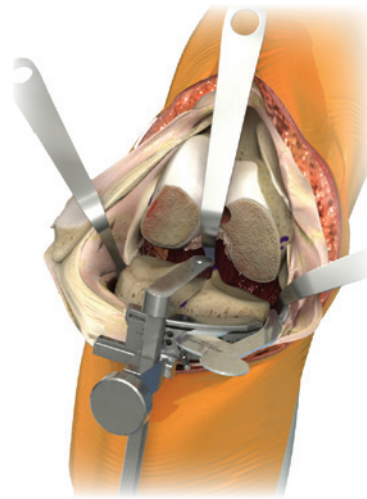

Figure 31
8. Check the posterior slope and resection plane with Resection Check (angel wing) (Figure 31).